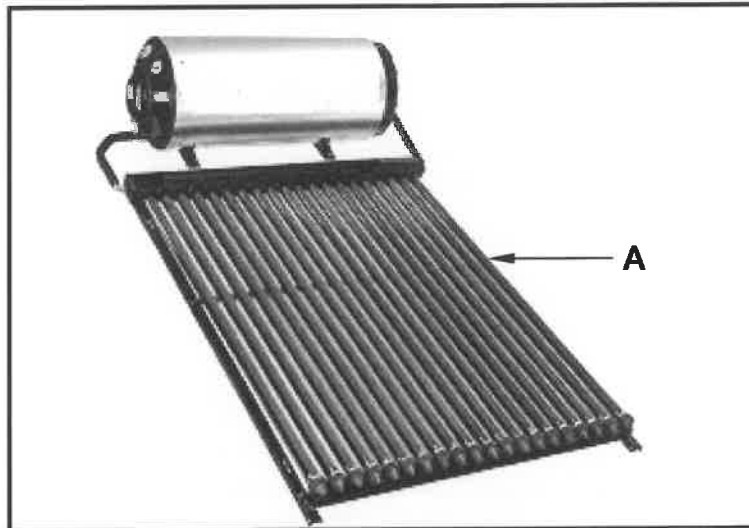

FIGURE 4.4
4.4 FIGURE 4.4 below shows a type of geyser.